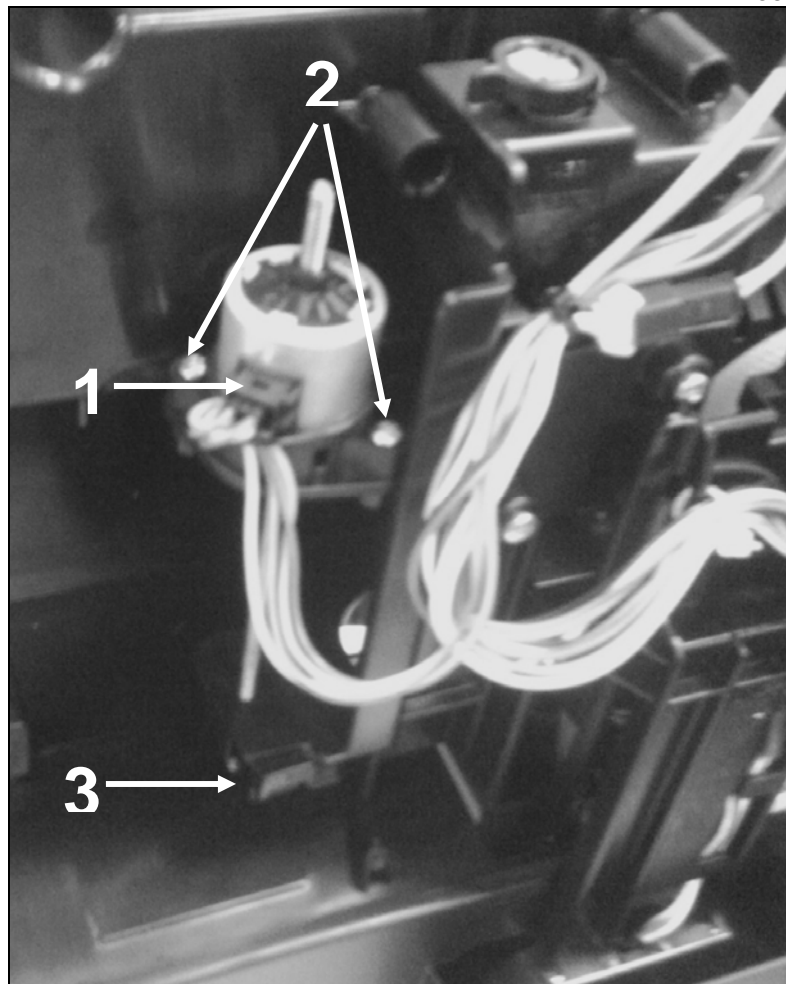

Figure 001-50: Dispenser Adjustment Motor M19
5. Disconnect the wiring harness from the dispenser adjustment motor. See Figure 001-50, Item 1
6. Remove the two T10 screws securing the motor to the dispenser housing. See Figure 001-50, Item 2.
7. Pull off the wedge bracket at the base of the motor spindle. See Figure 001-50, Item 3.